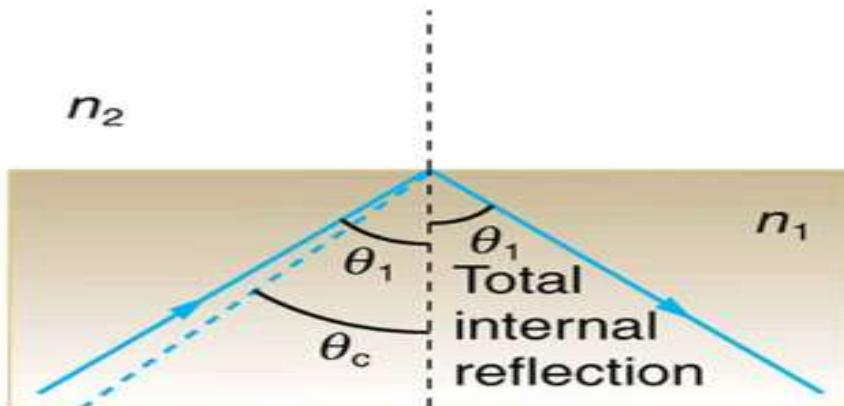

Fig. 1.21 Ray is totally internally reflected
- ❖ When the angle of incidence is greater than the critical angle, the incident ray is totally internally reflected in the denser medium itself as shown in Fig. 1.21. This is called total internal reflection which is the principle of the propagation of light through the core of the optical fibre.